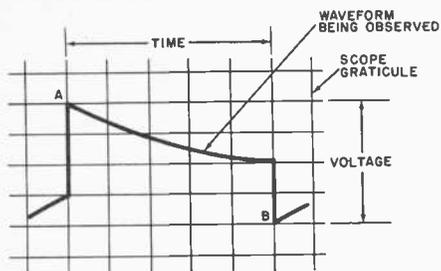

Fig. 1. Displayed waveform is plot of voltage versus time.
**Curves and Measurements.** The oscilloscope's usefulness in measuring time and voltage is illustrated in Fig. 1. Horizontal distances on the screen represent time by a fixed amount per graticule square, while vertical distances represent voltage, also by a fixed amount per square.
time between any two points on the display to be determined by multiplying the horizontal spacing in divisions by the numerical value of the TIME/DIV control setting. For example, the horizontal division between points A and B in Fig. 1 is five divisions. If the TIME/DIV setting is 100  $\mu$ s/division, the elapsed time between A and B is 100  $\mu$ s  $\times$  5 = 500  $\mu$ s.
tween any two points. The voltage (vertical) difference between points A and B in Fig. 1, therefore, is four divisions. Now, if the VOLTS/DIV control is set to 0.5 volts/division, the voltage difference is  $0.5 \times 4 = 2$  volts.